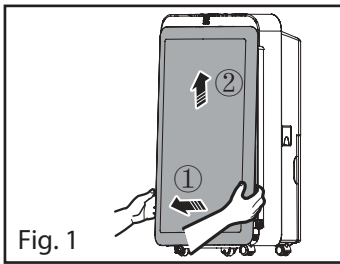

Fig. 1
Press the clips (12) to the sides of the front panel (11) and then open the front panel by roughly 20° (Fig. 1, step ①). Pull the front panel upwards as shown in Fig. 1 step ② to remove the panel.